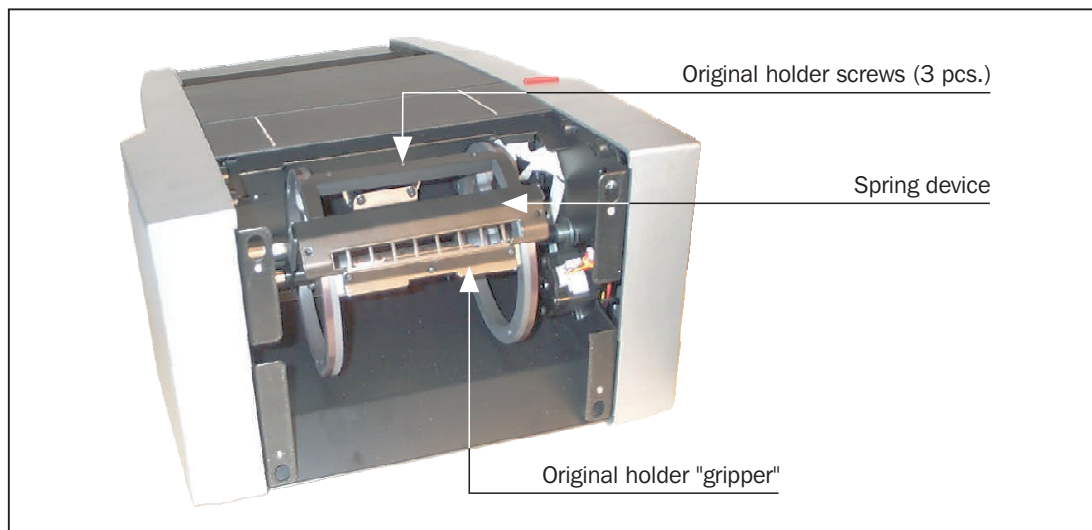

Figure 6.1: Drum and Original Loader
3. Now you have access to the drum as shown in Figure 6.1.